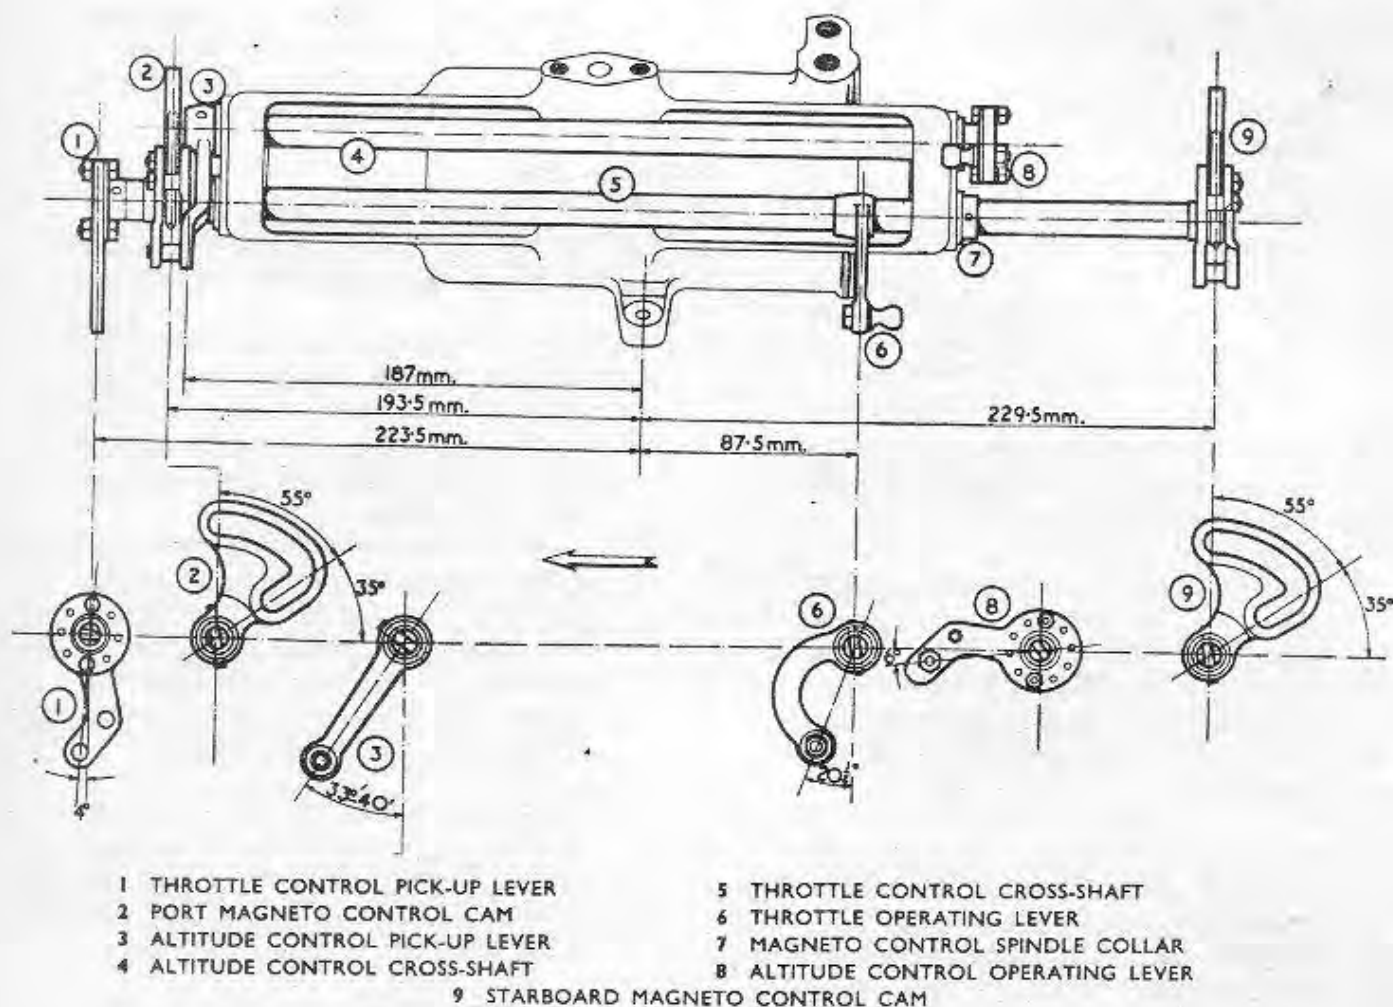

Fig. 5. Control bracket assembly
26. Fig. 5 shows the correct position and angular relationship of each part and reference must be made to this illustration when carrying out the operations given in para. 27. When the original parts are being refitted, it is only necessary to ensure that the taper pin holes are correctly aligned, and that the correct end-float is obtained. If new parts are being fitted it will be necessary to secure them in position (as indicated in fig. 5) temporarily whilst the taper pin holes are drilled and reamed. When the sub-assembly has been reassembled satisfactorily, the small end of each new taper pin must be securely peened over. Before the taper pin holes are drilled and reamed in the two vernier flanges, the flanges must be silver-soldered (B.S. 1843, type "C") to the cross-shafts. When the holes have been drilled and reamed, the taper pins are fitted and the small end of each pin securely peened over.
27. Making reference to fig. 5 as necessary, reassemble the main control bracket assembly as follows:—